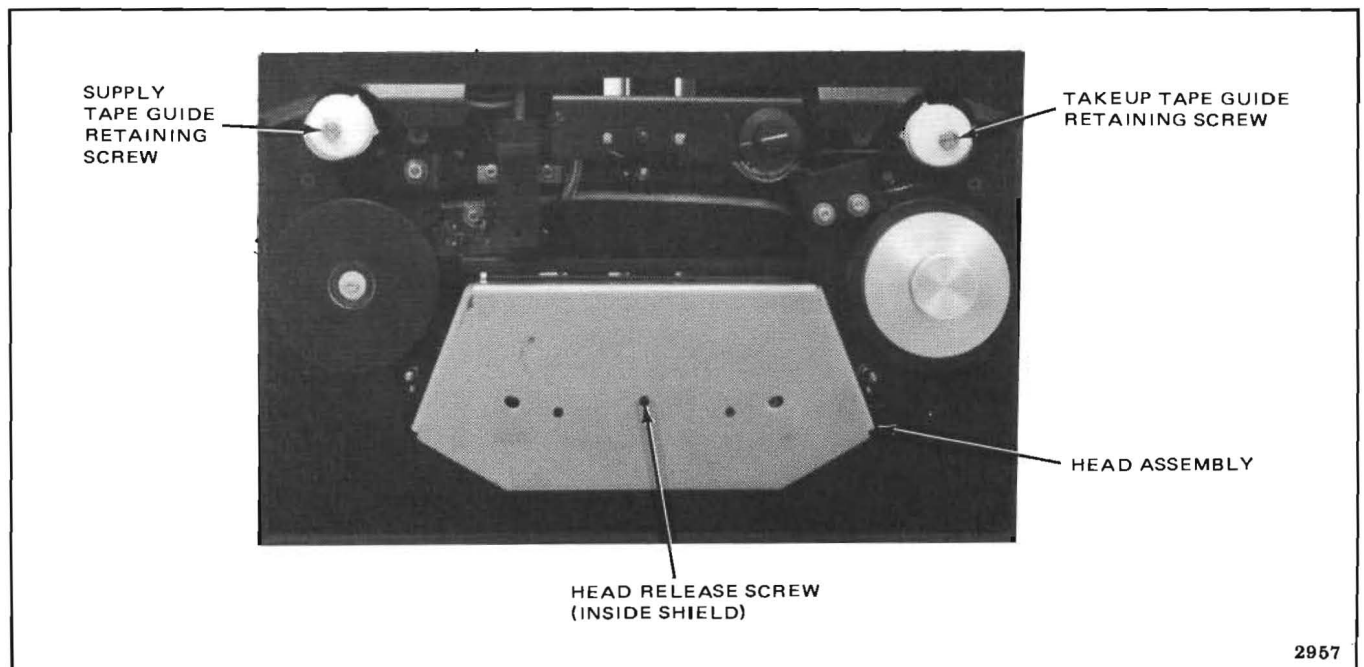

Figure 5-37. Head Assembly and Tape Guides
3. Insert Allen wrench through center hole in head shield (Figure 5-37) and turn spring-loaded screw 1/4 turn clockwise to release head assembly.